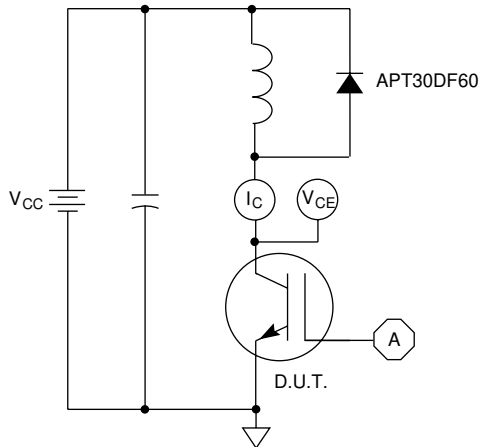

Figure 21, Inductive Switching Test Circuit
⑤ E_{on2} is the clamped inductive turn-on energy that includes a commutating diode reverse recovery current in the IGBT turn-on switching loss. A Combi device is used for the clamping diode as shown in the E_{on2} test circuit. (See Figures 21, 22.)
⑥ E_{off} is the clamped inductive turn-off energy measured in accordance with JEDEC standard JEDS24-1. (See Figures 21, 23.)
⑦ Continuous current limited by package lead temperature.